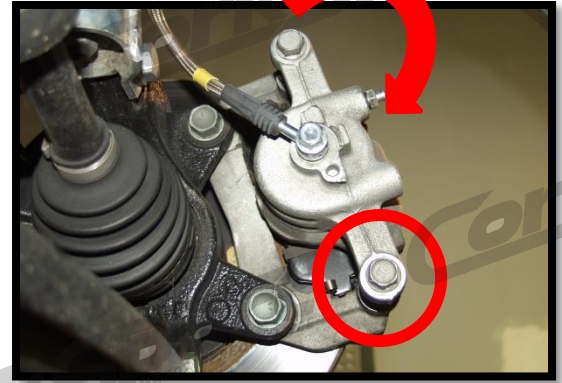

Figure 2e
- e) Line the caliper up with the bracket and insert the 14mm bolt you removed in step 1d. (Figure 2e)